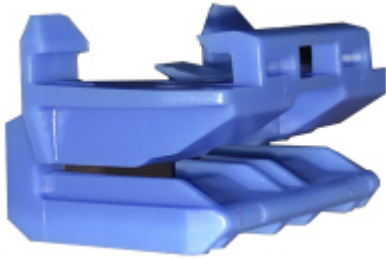

Figure 5
5. Install blue clips (Figure 5) at the 3 locations.